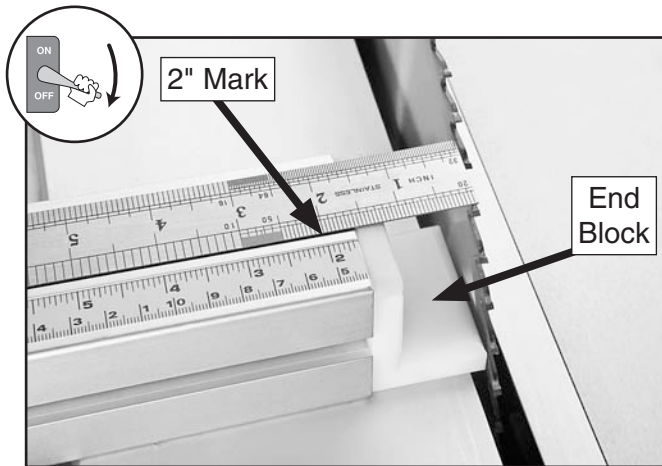

Figure 88. Setting the correct space between the crosscut fence and blade for rip cutting.
- Use a precision ruler against a tooth of the blade, then adjust the fence so that the 2" mark on the fence scale is exactly 2" from the blade tooth, as shown in **Figure 88**.